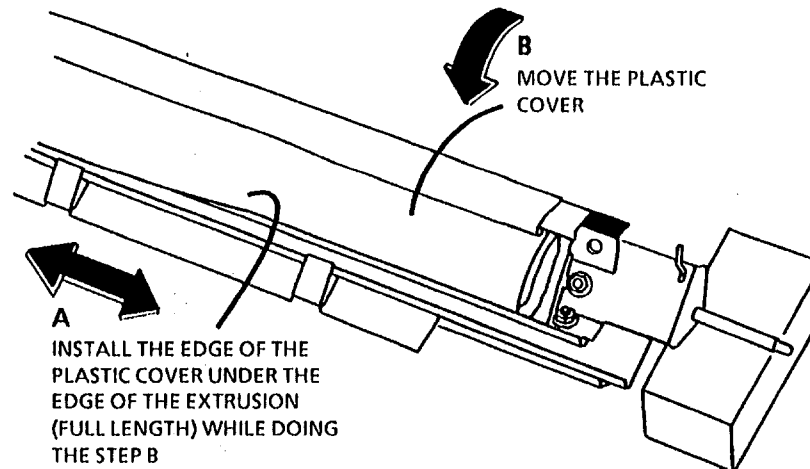

Figure 4. Install the Plastic Cover over the Oil Pads
- (Figure 4): Install the plastic cover over the oil pads.